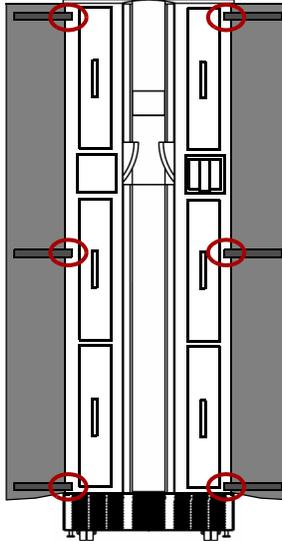

Figure B-2: Detaching the Doors
1. Remove the left front door (Figure B-2) by unscrewing the three Phillips screws holding the hinges to the frame.